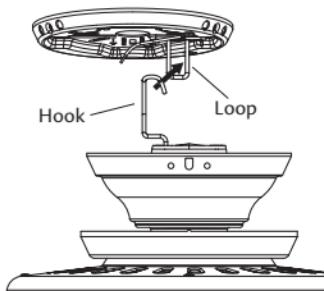

Figure 16 - Hanging the fan
- Raise the fan and place the hook through the loop on the ceiling plate as shown in Figure 16. Use the note and arrow engraved in the ceiling plate to assist in determining the direction to assemble.